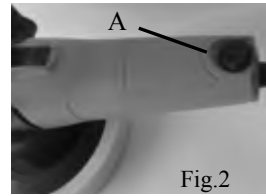

Fig.2
Speed is adjusted by turning thumbwheel (A), Fig.2.Thumbwheel position#1 provides the slowest operating speed and position #6 the fastest .Speed may be changed while motor is running or while it is stopped (polisher works best on settings between positon 3-5).